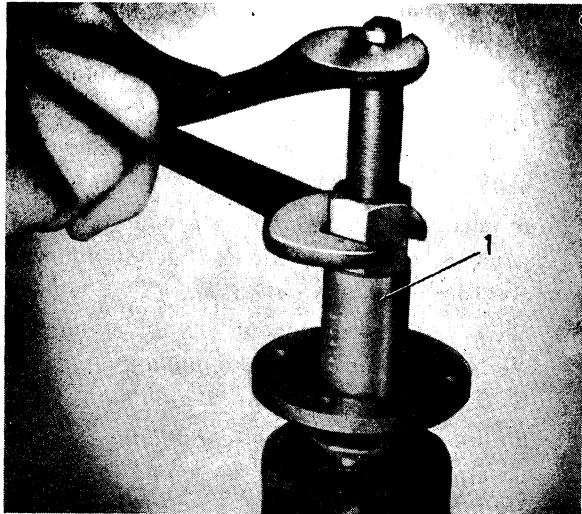

Fig. 4-134. Fitting flange
4. Press on the flange with the help of press tool SVO 1845, see Fig. 4-134. Fit the washer and nut. Tighten the nut to a tightening torque of 28—30 kpm (200—220 lb.ft.)